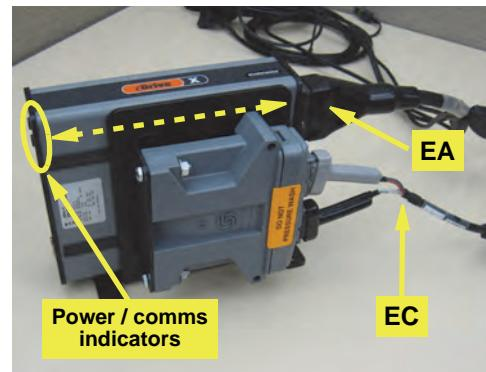

Figure 2a: Installed ECU and steering controller cables
- If not already attached, attach main cable **EA** to **EJ** using an Allen wrench to secure the cable. The **EA** connector only connects with the **EJ** socket that is in line with the power and communications indicators at the opposite end of the ECU—the upper socket in this installation (Figure 2a).
- Attach steering controller cable **EC**'s two 12-pin plugs to the corresponding gray and black connectors on the steering controller **EK** (Figure 2a).